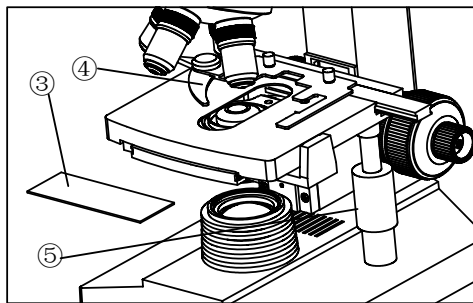

Fig.17
3.2.2 Placing the specimen (Fig.17)